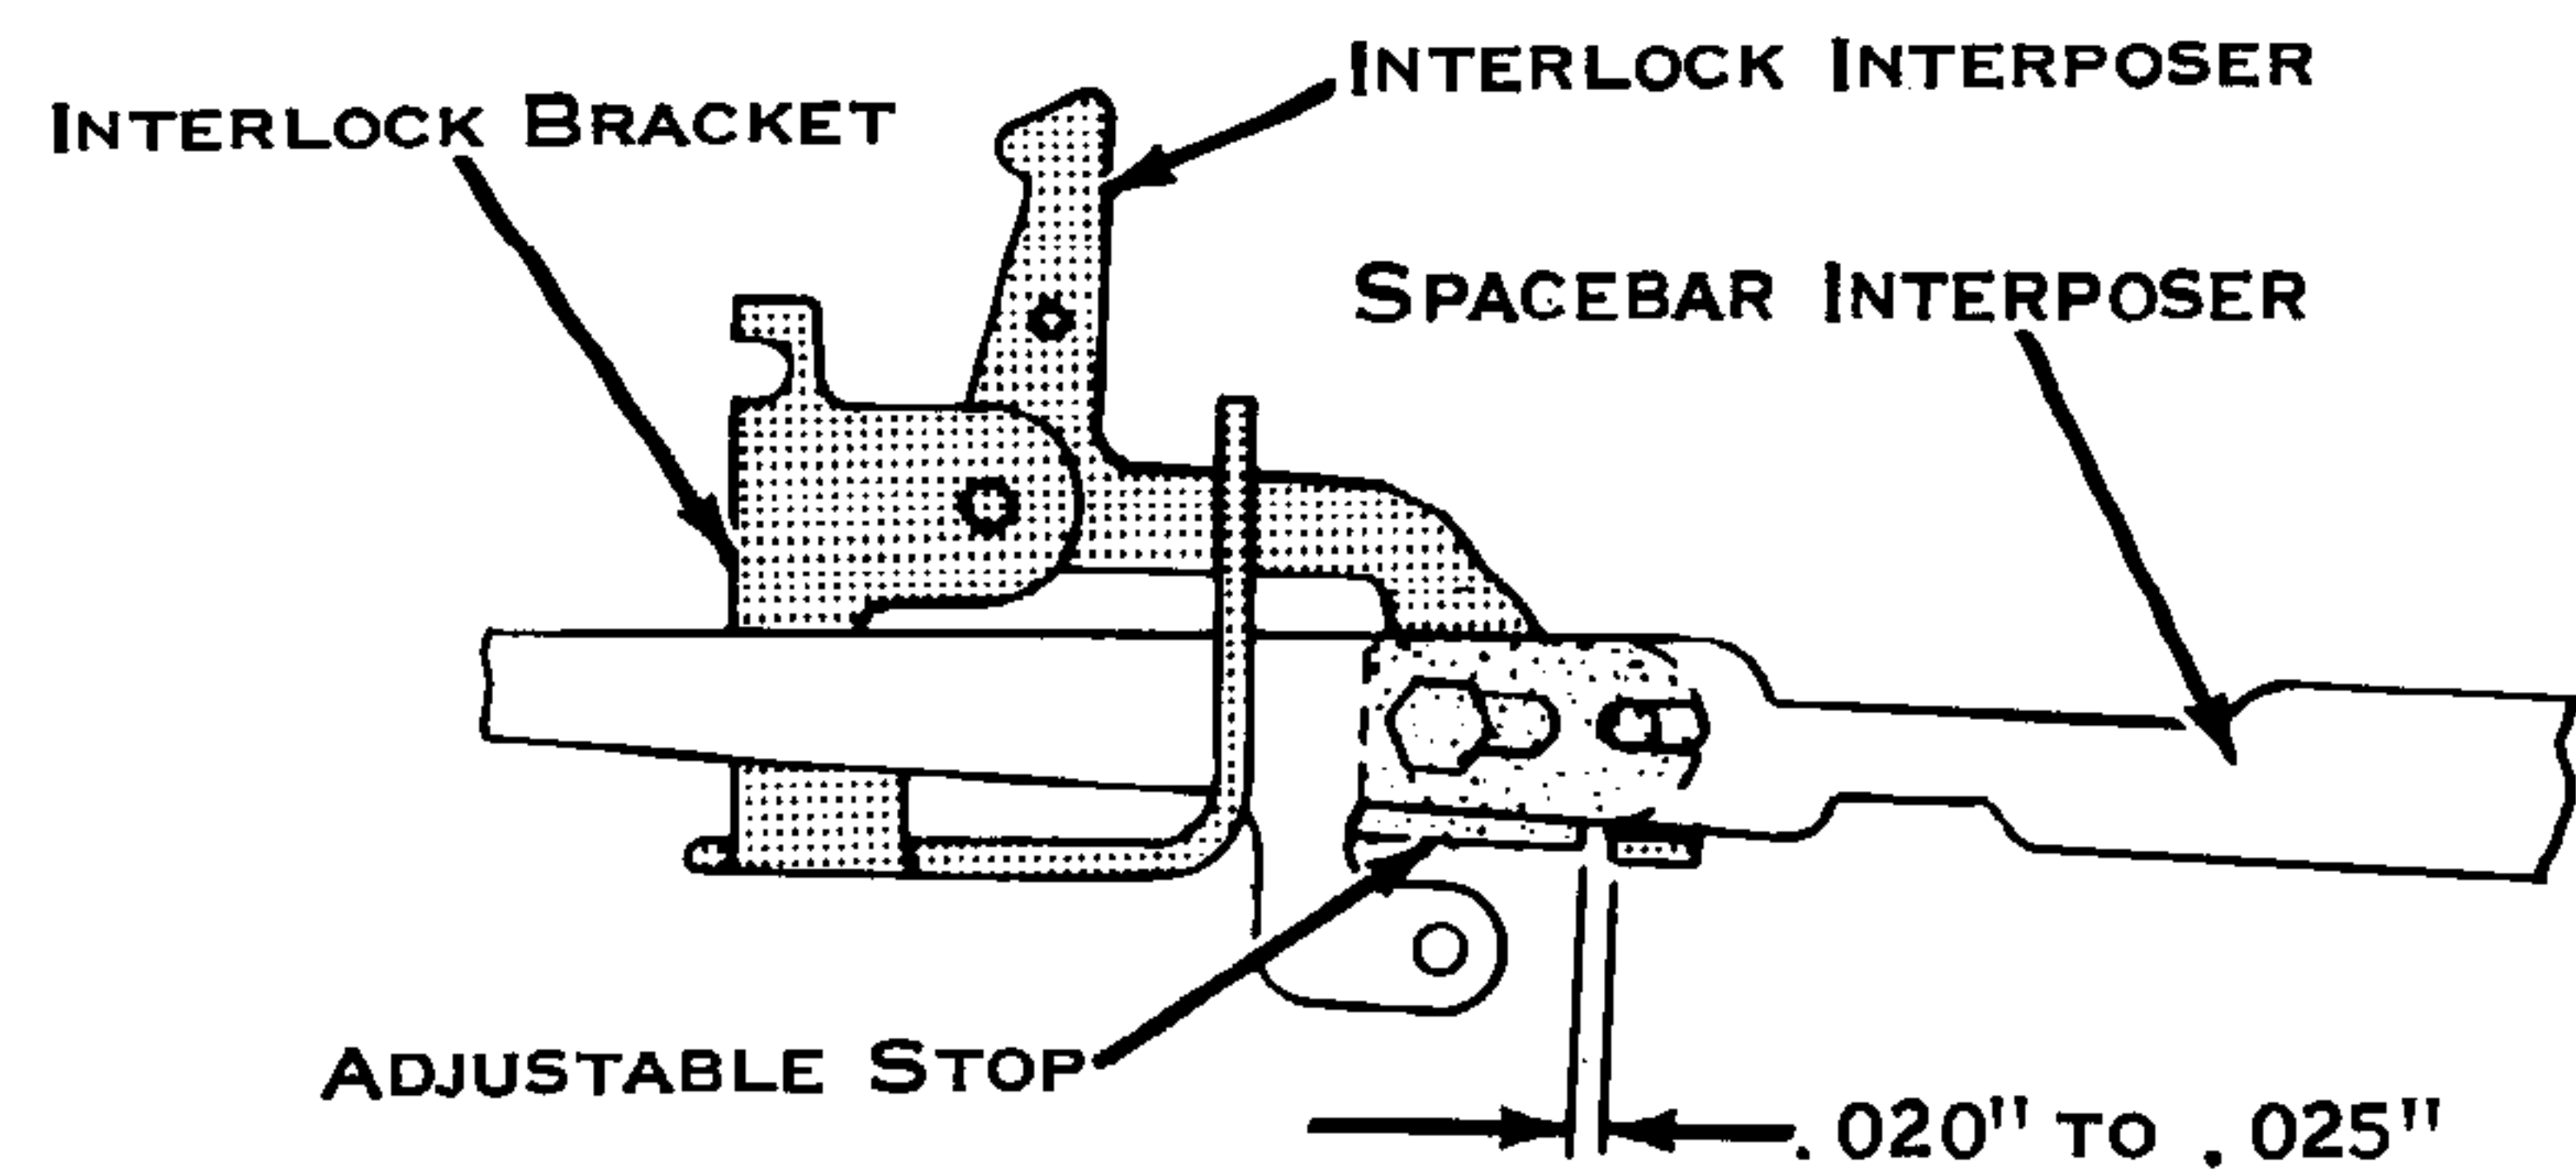

Figure 153. Adjustable Stop (New)
d. Spacebar Interposer Adjustable Stop (Fig. 153) - With the machine half-cycled, position the adjustable stop to obtain .020" to .025" clearance with the interlock interposer.